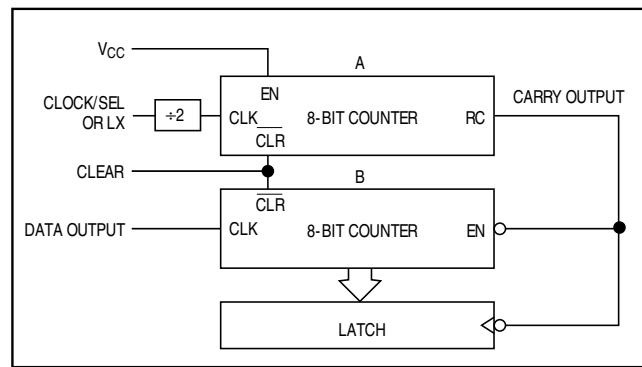

Figure 8. Discrete Hardware Solution for Counting A/D Output Data Pulses
When using two counters of the same length, as shown in Figure 8, one counter (A) just counts the A/D clock pulses ($f_{OSC}/2$), and the other counter (B) counts DATA output pulses. When counter A overflows (for example, after 256 clock cycles for an 8-bit counter), counter B is disabled. The controller reads the counter B output data and calculates the analog voltage present at the ADC's input.